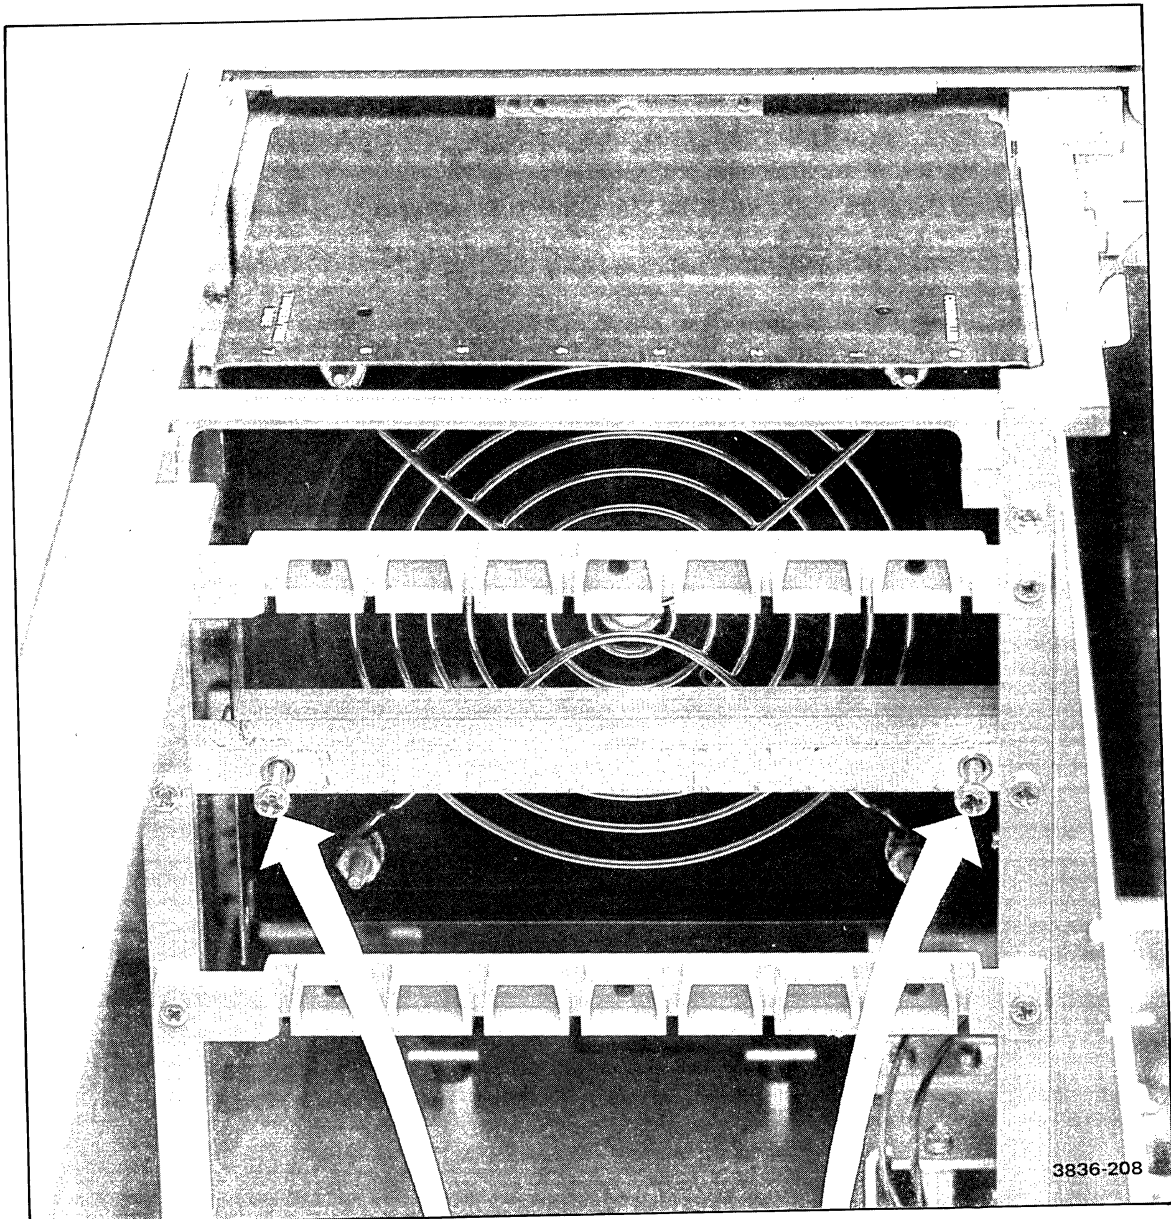

Figure 6-18. Location of the screws that attach the front fan to the mainframe (MONOCHROME ONLY).
2. Remove the two screws (6-32 x 0.875) in the horizontal metal bar located between the two plastic module guide bars. Refer to Figure 6-18.